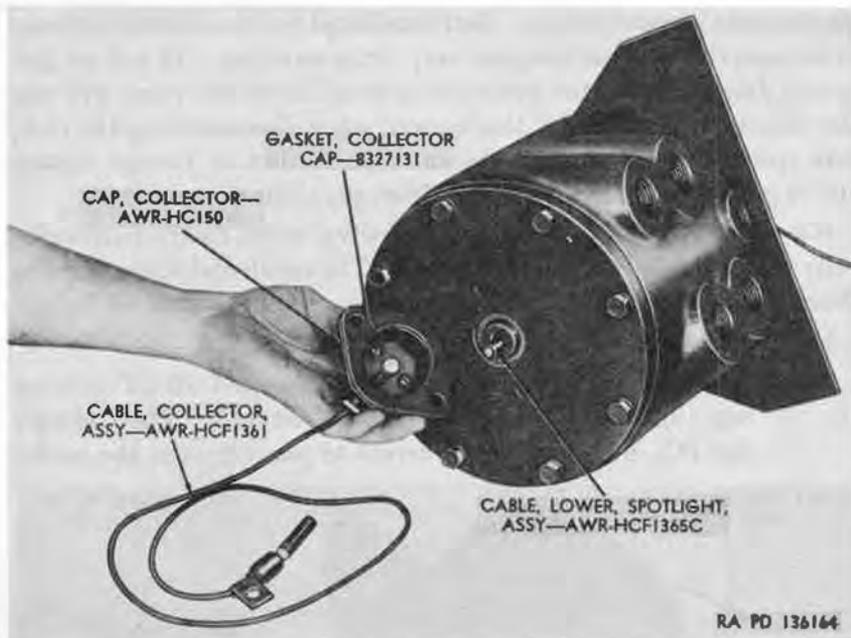

Figure 12. Removing collector cap from swivel valve.
- (1) Remove two cap screws and lockwashers and lift off collector cap (fig. 12) and collector cap gasket (Z). The collector cap (C) enables electric current to pass through the swivel